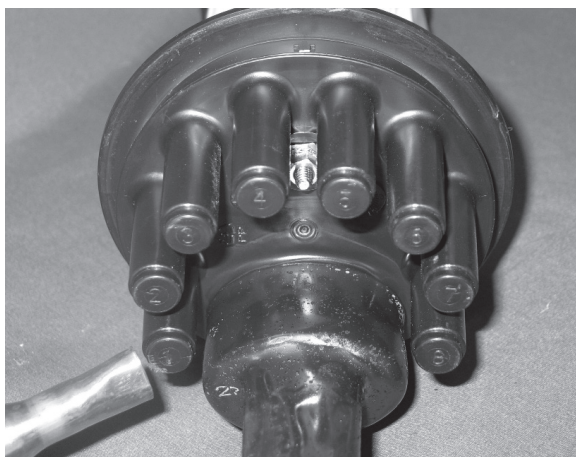

Figure 2
1. Heat port to soften (Figure 2).